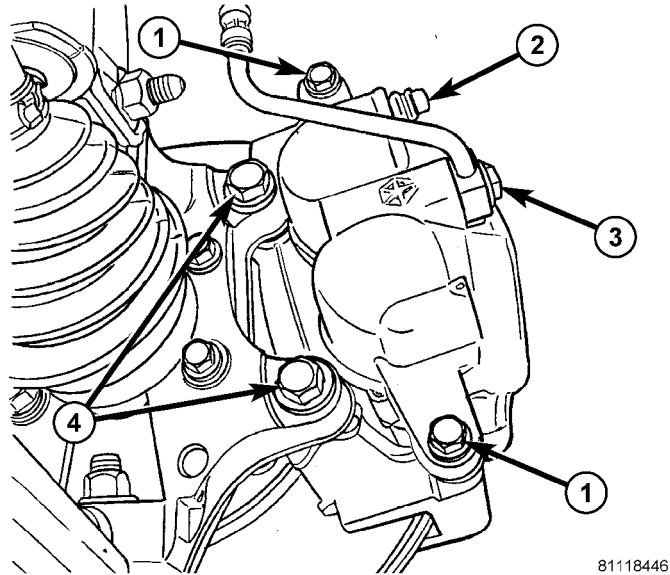

Fig. 1 Front Caliper And Adapter Mounting
2. Remove the two bolts securing the caliper adapter to the steering knuckle (Fig. 1).
5. Install the two bolts securing the caliper adapter to the steering knuckle (Fig. 1). Tighten both bolts to 169 N·m (125 ft. lbs.).
12. Tighten the caliper guide pin bolt closest to the bleeder screw to 43 N·m (32 ft. lbs.) (Fig. 1)
13. Tighten the caliper guide pin bolt farthest from the bleeder screw to 43 N·m (32 ft. lbs.) (Fig. 1).